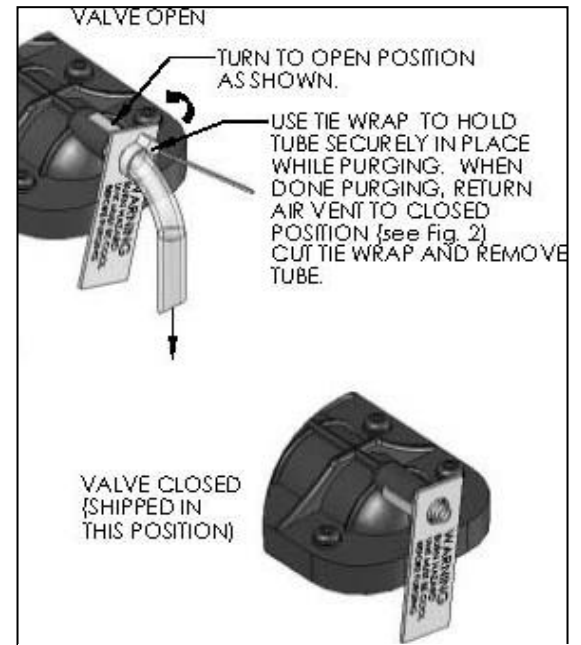

Figure 33
- f. One zone at a time, open the isolation valves. Allow water to run through the zone, pushing out the air. Run until no noticeable air flow is present. Close the zone isolation valves and proceed with the next zone. Follow this procedure until all zones are purged. After all the zones are purged, open the manual air vent on the top of the heat exchanger as illustrated in Figure 33. Purge out all air that may have accumulated in the header to avoid air entrapment in the system.